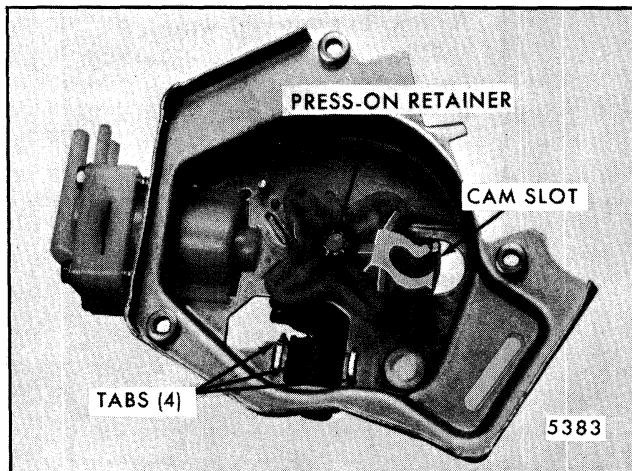

Fig. 2-105-Removing Four Lobe Cam
4. Chisel off the four bent-over tabs that secure the coil mounting bracket to the base (Fig. 2-105). Remove relay coil and terminal board assembly. To mount a replacement relay assembly, hold it securely against the base mounting surface and bend locking tabs over.